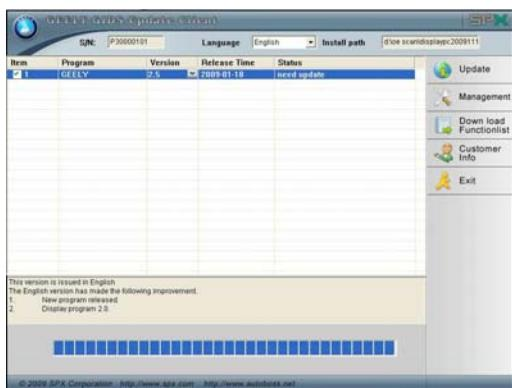

Fig.2-3 Download interface
- (1) Choose the language version. The default path is "C:\Program Files\GIDS\work".
- (2) Tick the small box before the relevant program as shown in Fig.2-3;
- (3) Click on the button **[Update]** in right column to enter update status. Programs that are not downloaded are in black. If download succeeds, they will be highlighted in blue. Failed downloads are highlighted in red.
- (4) The programs will be downloaded to your PC hard drive and updated automatically.